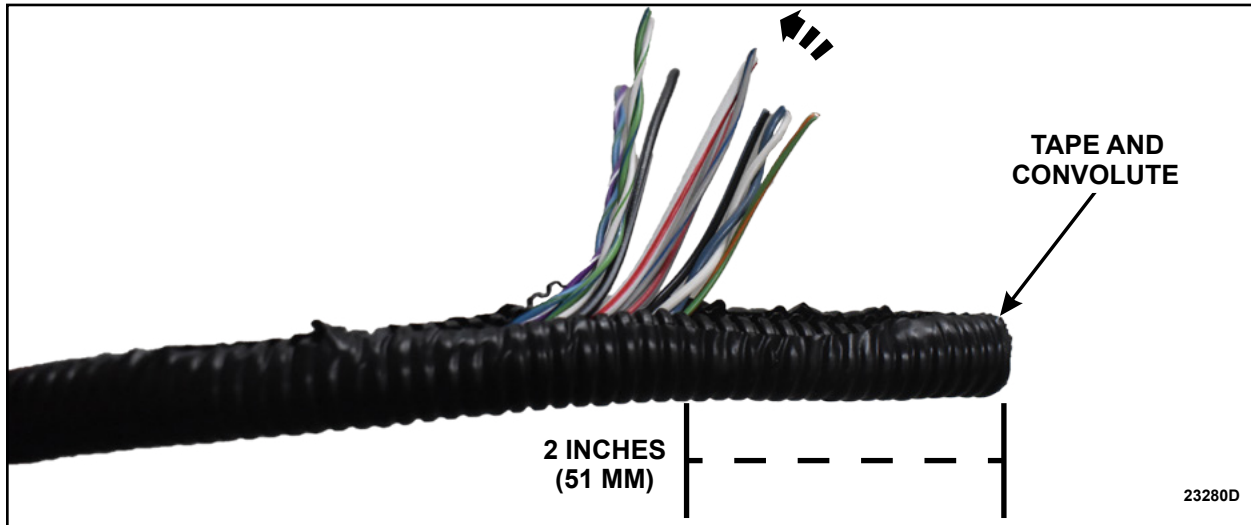

FIGURE 2
5. Remove 2 inches (51mm) of tape and convolute from the cut end of the wire harness. See Figure 2.